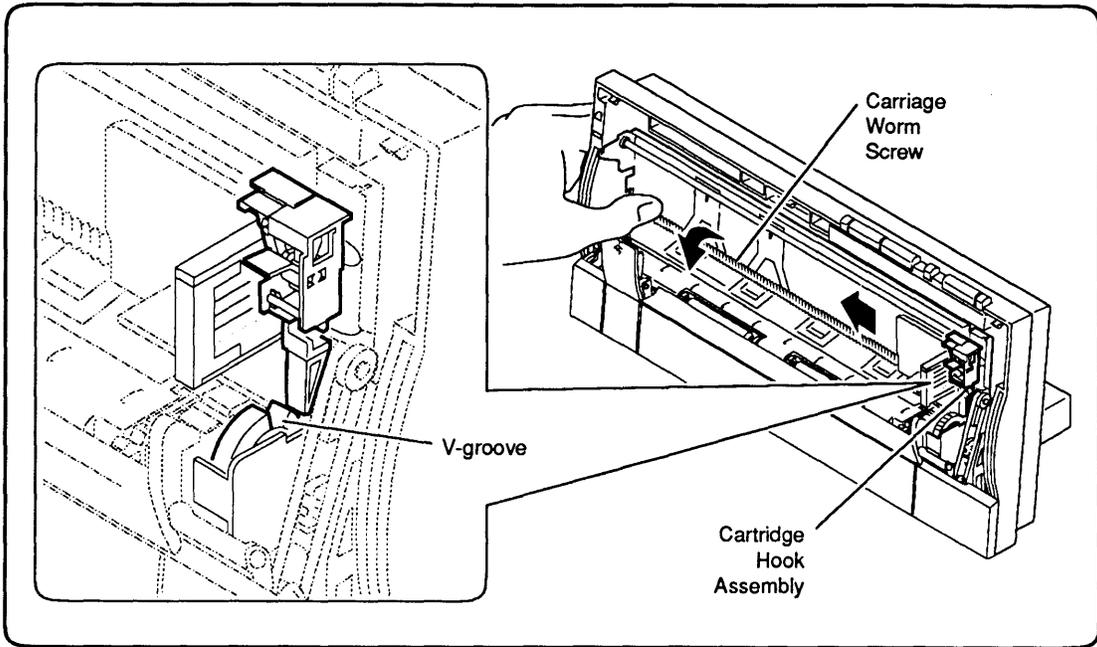

Figure 3-1 Moving the Carriage Hook Assembly
3. Manually rotate the carriage worm screw until the V-groove of the grey gear faces up (**Figure 3-1**).